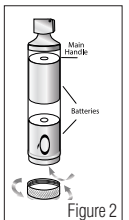

Figure 2
2. Replace with appropriate size battery, taking care to insert positive ends first. Screw bottom cap on and tighten. (Figure 2).